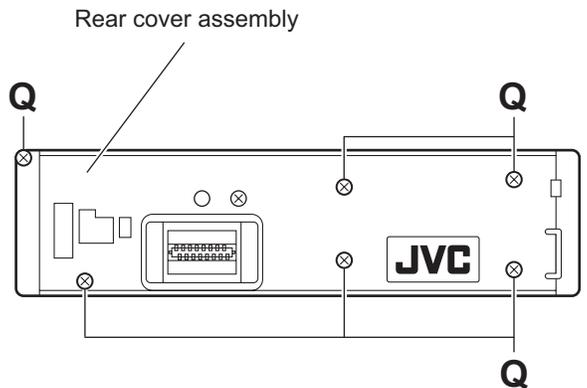

Fig.14
3.1.9 Removing the switch board (See Figs.14 to 16)
- (1) From the rear side of the front panel assembly, remove the six screws **Q** attaching the rear cover to the front panel assembly. (See Fig.14)